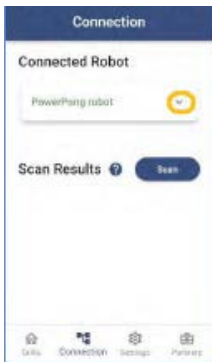

Figure 4-4
2. Press the down arrow key for the Connected Robot. (Figure 4-4)